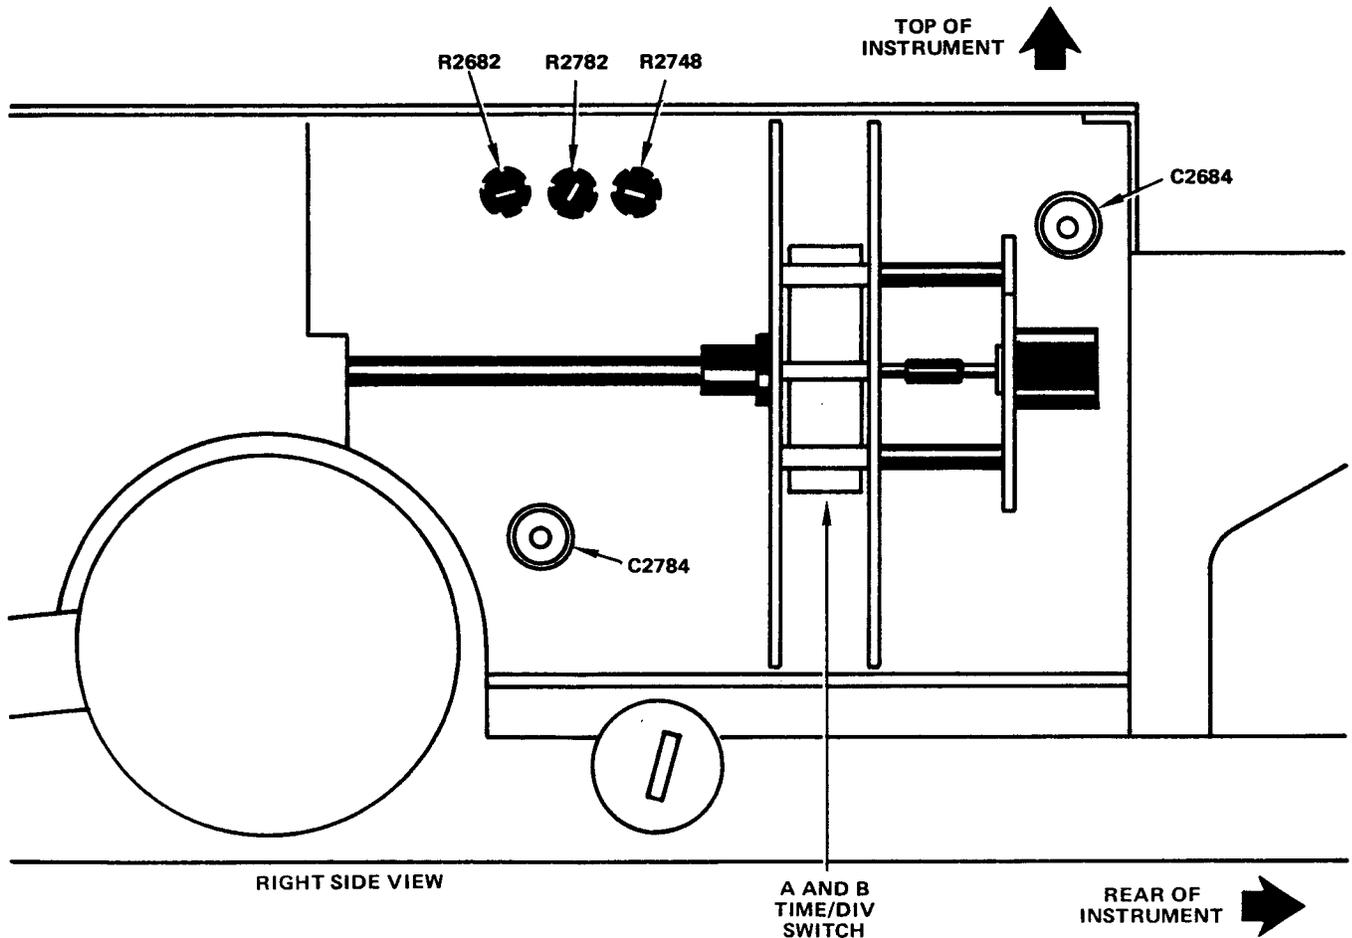

Figure 5-23. Sweep adjustment locations.
(12) Disconnect the sine wave generator.
o. Sweep Start-Stop (Figure 5-23).
(1) Set controls as follows:
(5) Continue to the next procedure.
r. B Sweep Timing (Figure 5-23).
- (1) Set controls as follows:
s. .5 μ s Timing (Figure 5-23).
(1) Set A TIME/DIV to .5 μ s and HORIZ DISPLAY to A.
(2) Set time mark generator for 0.5 microsecond time marks.
(3) Adjust C2784 for one time mark per division.
(4) Set HORIZ DISPLAY to B DLY'D.
(5) Set DELAY TIME POS to 1.00, then rotate it toward 0.0 until there is one time mark per division and a time mark is aligned with the left vertical graticule line.
(6) Adjust R2684 for one time mark per division.
(7) Set B TIME/DIV to .05 μ s and DELAY TIME POS to 1.00
(8) Adjust horizontal POSITION and align the time mark with the center vertical graticule line.
(9) Set DELAY TIME POS to 9.00.
(10) Very slightly adjust R2784 so the time mark aligns with the center vertical graticule line.